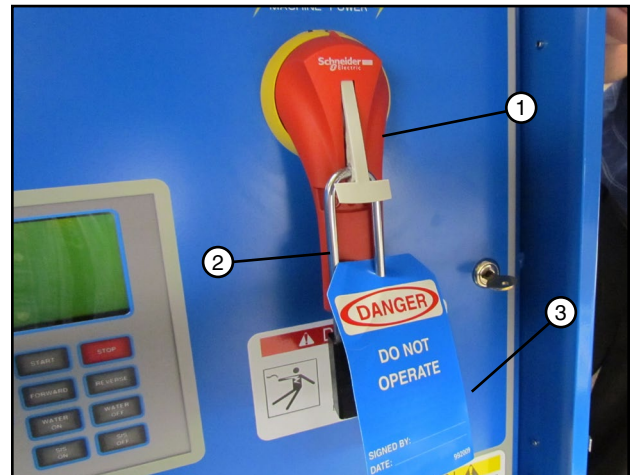

Figure 25-2 1. Main Disconnect
2. SHUT OFF and lock the control panel main power disconnect. See figure 25-2.
FILL OUT the blue (OSHA safety color code) tag and attach to the disconnect after locking. See figure 25-2.